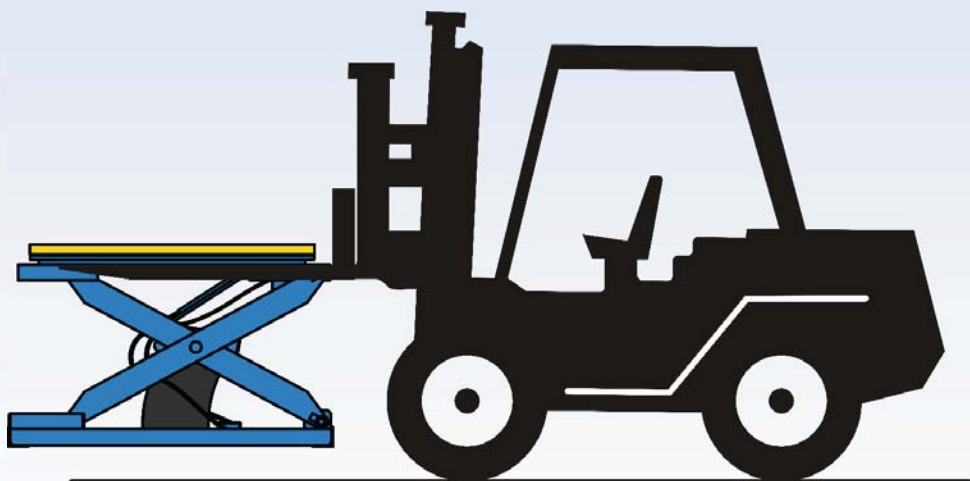

Figure 9 Handling the EZ Loader
6. Using a fork lift, position the forks under the platform structure, as detailed in Figure 9. Lift the EZ Loader off the pallet. Next, remove the pallet and place it off to the side. Position the EZ Loader in the desired location.
2. Using a fork lift, position the forks under the platform structure, as detailed in Figure 9.